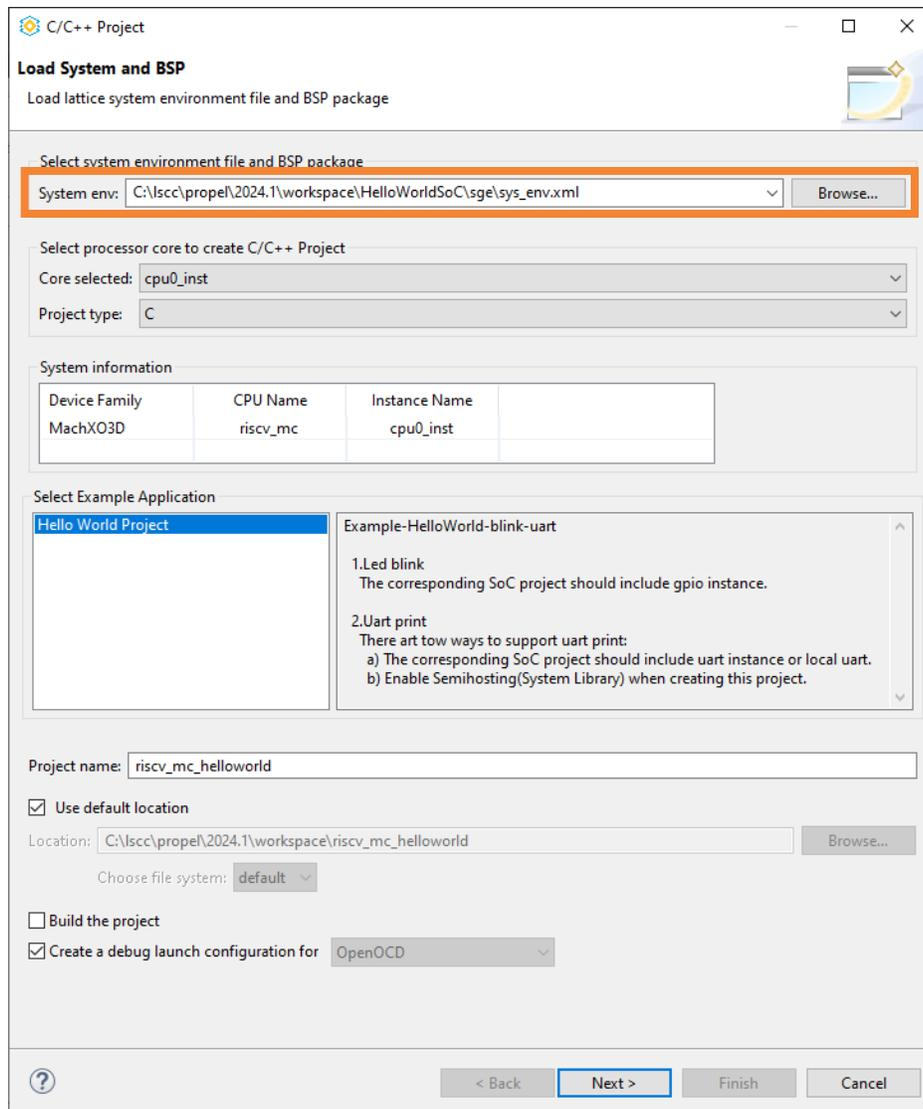

Figure 4.9. Load System and BSP Page
The C/C++ Project wizard opens with the **Load System and BSP** page (Figure 4.9).
4. Select the system environment file just generated (Figure 4.9).
5. Change project name to HelloWorld (Figure 4.9). Click **Next**. Then click **Finish**.